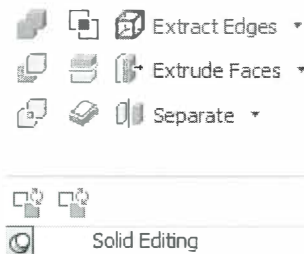

Figure A-20
- Regions are considered solid objects and the tools for editing them are located in the *Home* tab>*Solid Editing* panel (as shown in Figure A-20) when the 3D Modeling workspace is active.